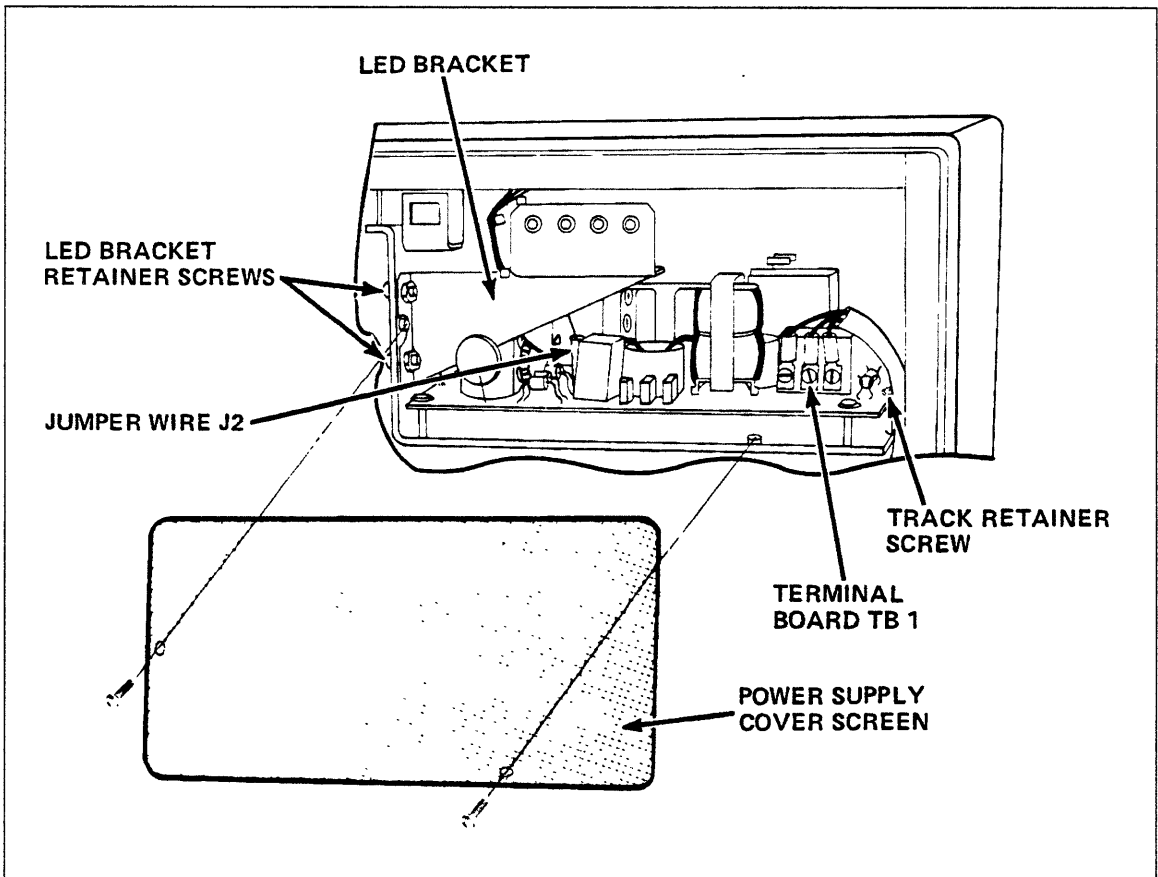

Figure 9-8. Power Supply (Front View)
5. Remove the safety screen from front of power supply by removing two screws that connect it to DI base (figure 9-8).
6. Remove power supply track retainer screw from front on power supply (figure 9-8).
7. Loosen three screws on top of TB1, on front of power supply. Label (for easy reassembly) and remove wires (figure 9-8).
8. Remove two screws on left side of LED bracket (figure 9-8). Carefully (wires are still attached to bracket) reposition bracket (hold up) so it does not hinder power supply removal.
Before installing a new power supply, set it to the proper voltage level (110 V for a GH120B or 220 V for a GH121A) by attaching the jumper wire (J2 on figure 9-8) to the pin marked with the proper voltage level.